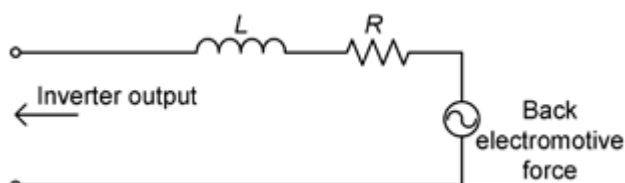
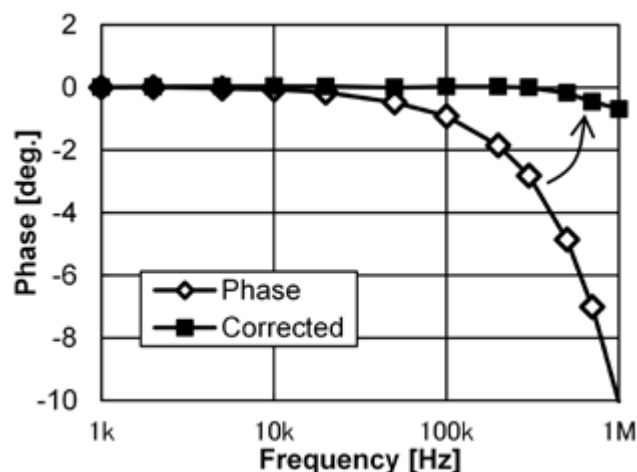

Figure 2: Equivalent circuit for a motor (1 phase)
Figure 4: Compensating a current sensor's phase error
Let's study the band that is needed in order to measure power at the switching frequency and its harmonics. Figure 2 provides an equivalent circuit for a motor that is driven by an inverter. Since the motor's windings have an inductance component, high-frequency current is less likely to flow to the motor. Since the voltage is a PWM waveform, it can be approximated as a rectangular wave. At this time, the current will take the shape of a triangular waveform. When calculating RMS values for the triangular waveform over the frequency domain, measurement can yield RMS values with an error of 0.1% or less if harmonics can be measured to the 5th order. Here the active power P_f can be expressed as a function of the voltage U_f , the current I_f , and the voltage-current phase difference θ_f as follows:
Consequently, if either the voltage or current is 0, the active power for that frequency component will be 0. Assuming measurement at a precision of 0.1%, current at 7th order and higher harmonic components can be ignored, as noted above. Therefore, the ability to measure voltage, current, and phase difference accurately within the band of 5 times to 7 times the switching frequency is sufficient in order to measure power at the switching frequency and its harmonics with an error of 0.1% or less. However, loss in an actual motor includes the magnetic material's core loss as well as losses from factors such as wire skin effects in addition to the resistance portion shown in Figure 2. Consequently, a somewhat wider frequency band is needed in order to more accurately measure power at the switching frequency and its harmonics. The band that is actually needed is affected by factors such as the frequency characteristics of the respective losses.
Generally speaking, current sensors are used when measuring current in a motor drive system. In such applications, the current sensors' phase error becomes problematic. All current sensors exhibit a tendency toward increased phase error at higher frequencies, and this tendency becomes a source of error when measuring high-frequency power. As shown in Figure 2, the motor windings' inductance component is dominant at high frequencies. As a result, power at the switching frequency and its harmonics is characterized by a lower power factor. Based on Equation (1), phase error has an extremely large impact on power measurement error at low power factor values (θ values of approximately 90°). Consequently, it is not possible to measure power at a high degree of precision unless the current sensors' phase error can be corrected. Hioki's Power Analyzer PW6001 provides functionality for compensation for current sensor phase error, as shown in Figure 4. This phase compensation function makes it possible to measure inverter output power more accurately.